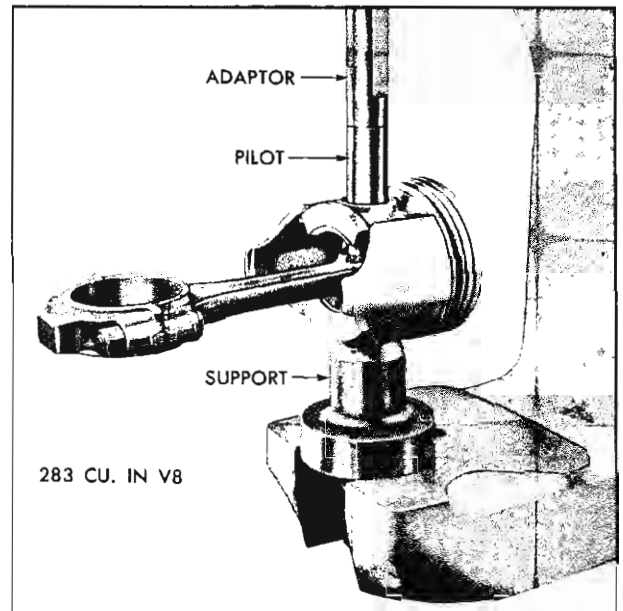

Fig. 88—Removing Piston Pin
4. Install nut loosely on puller screw and place assembly in an arbor press as shown in Figure 88. Press pin out of connecting rod.